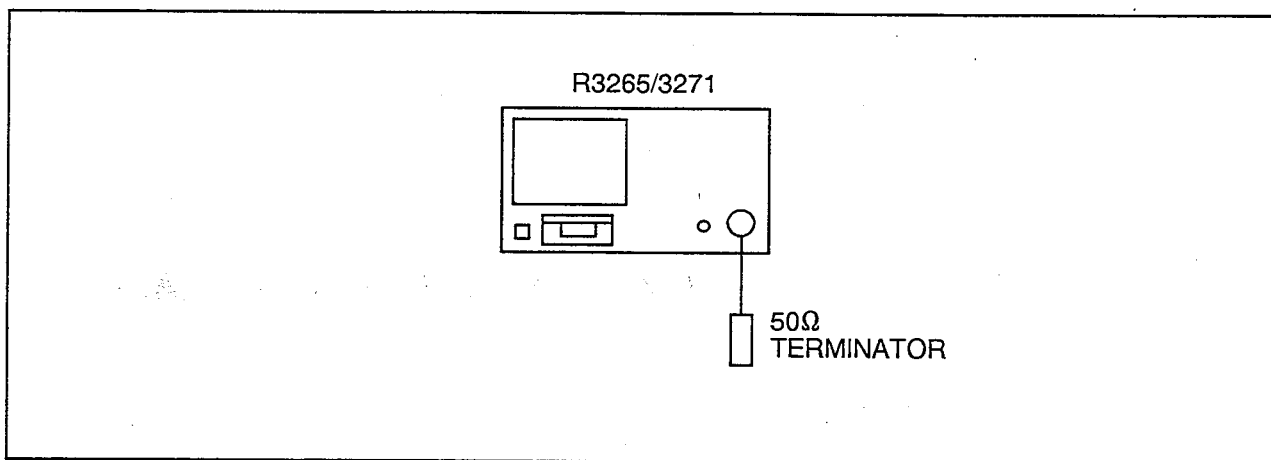

Figure 4-9 Displayed Average Noise Test Setup
(1) Connect the equipment as shown in Figure 4-9.